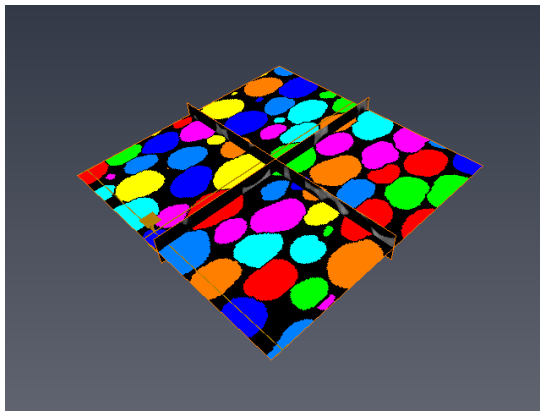

Figure 4.13: Point dragger (brown lines crossing) in the 3D viewer corresponding to row 82
- Click on the label seek button of the analysis panel toolbar (see Figure 4.12). A new *Ortho Slice* is automatically attached to the separated image and displayed in the 3D viewer, as well as a point dragger (see Figure 4.13).